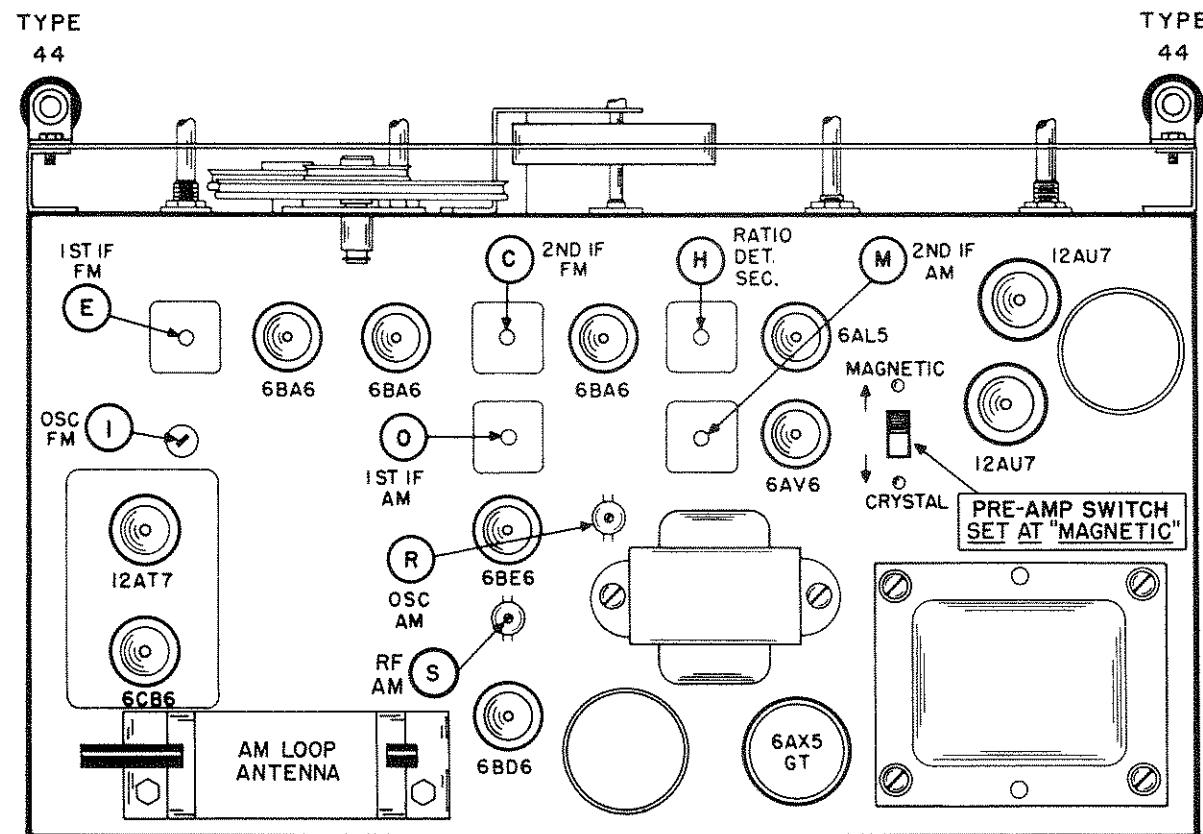

Fig. 4. Top View of Tuner Showing Location of Alignment Adjustments and Tubes
**DIAL LAMP REPLACEMENT.** Refer to Fig. 4 for the location of the two dial lamps used in the tuner. To gain access to the lamps, it will be necessary to first remove the tuner from the cabinet as outlined above. Then remove the front panel by removing the front control knobs and the two screws on either side of the front panel. Make replacement with a type 44 (blue bead) pilot lamp.
- Refer to Figs. 4 and 5 for location of all alignment adjustments. Adjustments are also shown on schematic diagram.